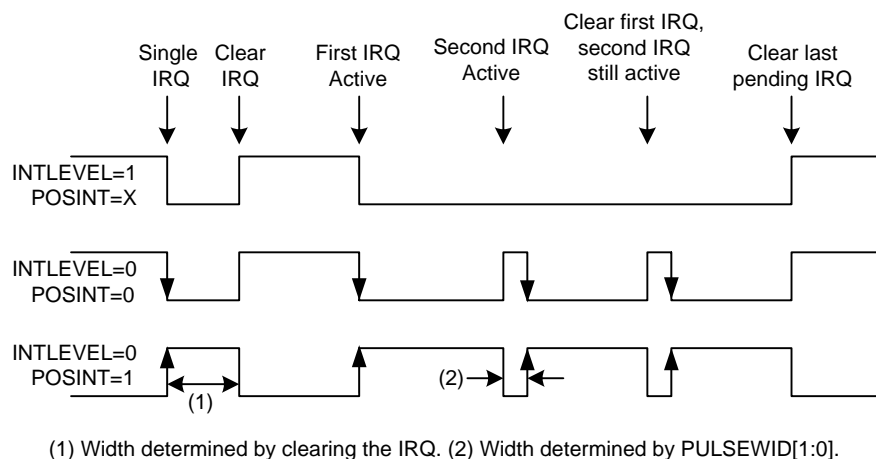

Figure 8. INT pin behavior depending on INTLEVEL and POSINT bits.
These bits have effect only when the CPU has programmed the INT pin to be edge-active (INTLEVEL = 0). They control the inactive INT pin time intervals between the CPU clearing one IRQ bit and the INT pin re-asserting due to one or more pending interrupts (**Figure 8**).
The waveforms in **Figure 8** show the INT pin behavior for different settings of the INTLEVEL and POSINT bits.
In edge mode the INT pin delivers an edge whenever a new interrupt request occurs or an interrupt request bit is cleared while others are pending. If an interrupt is pending when another is cleared in edge mode, the INT pin momentarily goes inactive, then active again to deliver the edge. The inactive time, shown as (2) in the **Figure 8**, is programmable to four values, shown in the table below.